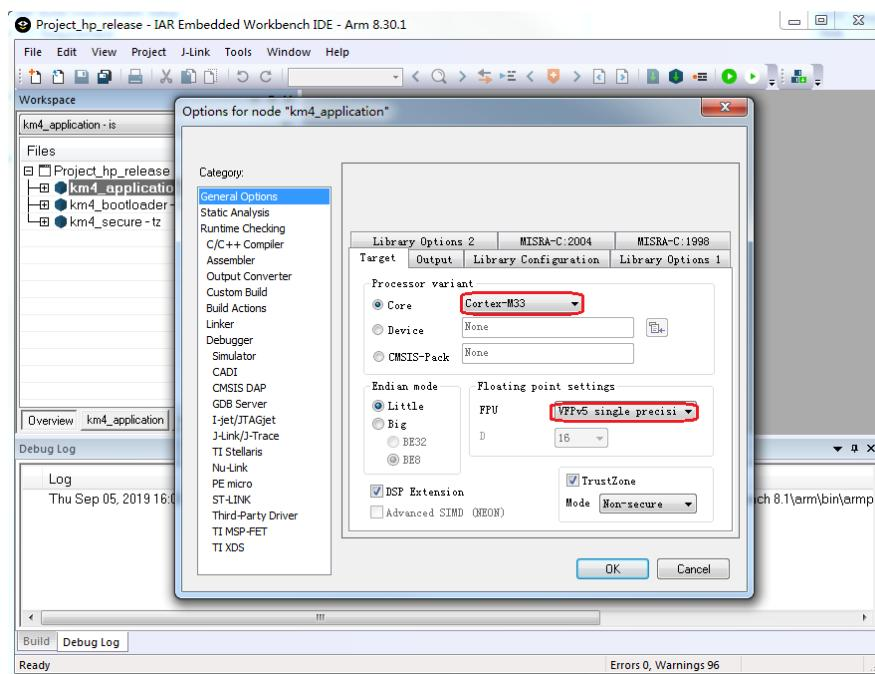

Fig 6-9 KM4 processor options
- (1) Open **project\realtek\_amebaD\_va0\_example\EWARM-RELEASE\Project\_hp\_release.eww**.
- (2) Refer to 6.3.1 and choose the build configurations for each project according to your application.
- (3) Click **Project > Options, General Options > Target > Processor Variant > Core**, verify the CPU configurations according to Fig 6-9.